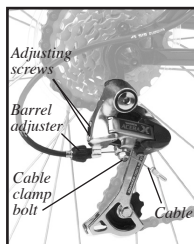

Figure 22- Rear derailleur
2. Loosen the cable clamp bolt (Figure 22) until the cable is free.